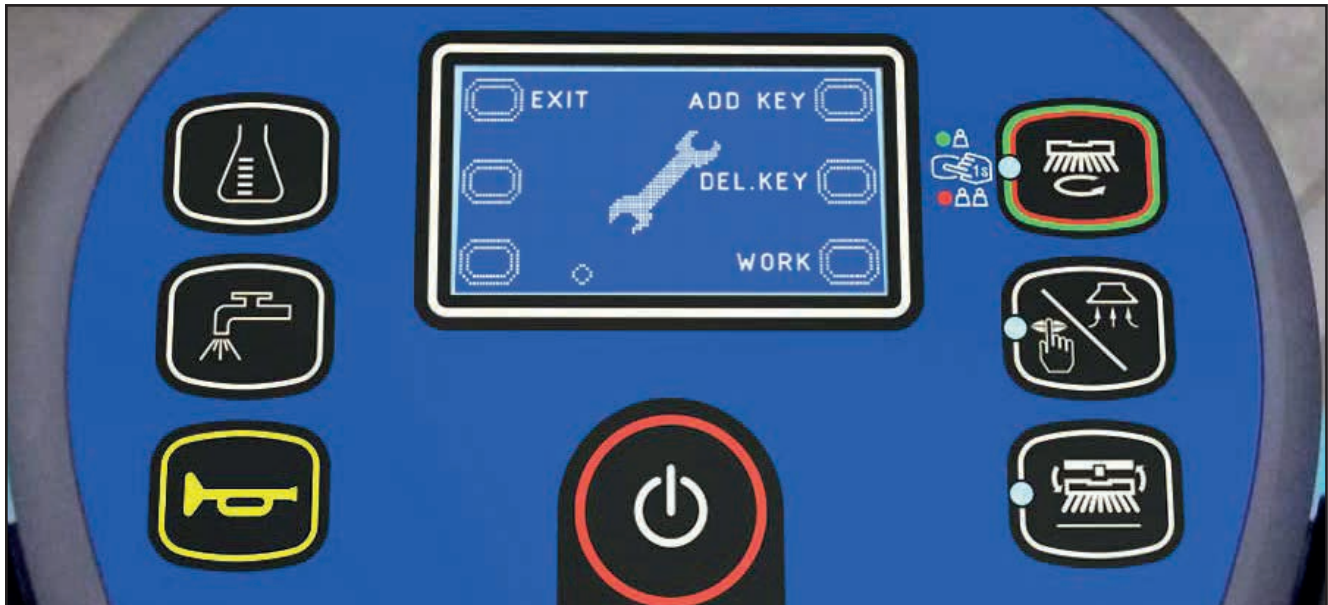

Figure 11:
The Magnetic Smart Keys Management Screen (Figure 11) allows you to define if the machine can be used with whatever user key (factory setting) or only with one or more specific user keys.
6. Disconnect the following connections (Figure 11):
- (A) and (B) Main machine controller power supply connection (B+) and (B-).
- (C) and (D) Brush motor connection (BR+) and (BR-).